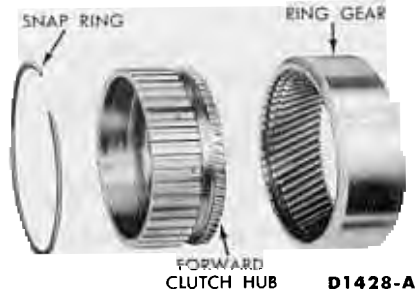

FIG. 81—Forward Clutch Hub and Ring Gear Disassembled
1. Remove the forward clutch hub retaining snap ring (Fig. 81).